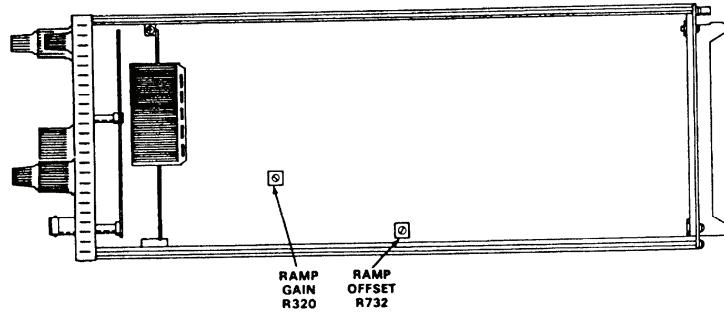

Figure 5. Tektronix, Type 7D20 right side view - adjustment locations.
- ca.** The **FAST RAMP TEST/ * SERVICE ONLY *** and **GAIN COUNT** will be displayed (flashing) on TI. TI display **GAIN** will indicate between 99.7 and 100.3; if not, adjust **RAMP GAIN R320** (fig. 5) for **GAIN** indication of **100.0**.
- ck.** Press **TRIGGERING/MODE AUTO**, **TRIGGERING/COUPLING DC** pushbuttons. TI display **CURSOR** dot indication will be within 2 vertical divisions of center graticule line; if not, adjust **RAMP OFFSET R732** (fig. 5) so **CURSOR** dot is within 1 vertical division of center graticule line.
Adjustment of **RAMP OFFSET R732** affects the adjustment setting of **RAMP GAIN R320** (fig. 5). Repeat **bu** through **ca** above.